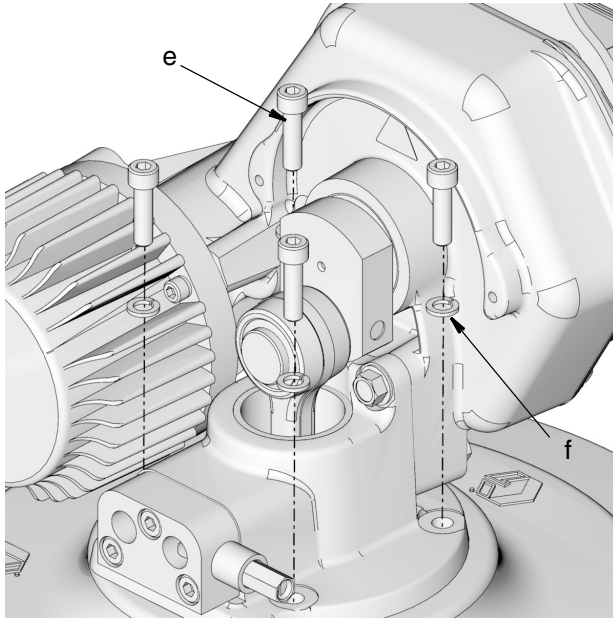

FIG. 4
6. Remove screws (e) and washers (f) holding Dyna-Star Pump to reservoir cover (b) and remove pump from cover (FIG. 4).